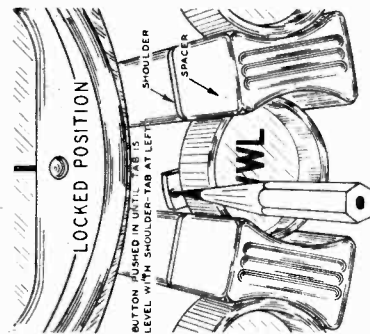
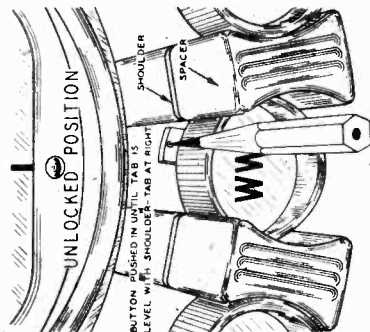

Fig. 13—Button and Tab in Locked Position
Fig. 14—Button and Tab in Unlocked Position
- 4 — The procedure necessary to set a button is simple and the steps are illustrated in Figs. 12 to 15. The normal position of the button and tab is shown in Fig. 12. Depress the button with the finger to the locked position until the tab is level with the shoulder of the dial. See Fig. 13. When the button is depressed the tab may be easily moved to the right either with the finger or with the point of a hard lead pencil inserted in the hole in the tab. It is then in the unlocked position—See Fig. 14. If the tab does not move to the right easily, push the button in or out slightly from the position shown until the groove is found.
- 6 — Push the button one-half way in. It will then be in the unlocked position. See Fig. 14. Push it all the way in to the setting position. Move the tab to the left with finger or pencil to the normal position—See Fig. 13. Then release the button; it will return to the normal position—See Fig. 12.